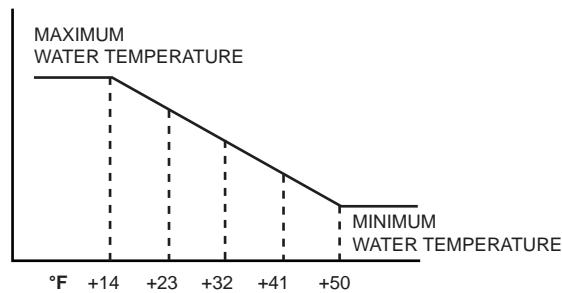

Fig. 5
- f) On the electronic aquastat (marked "WATER TEMPERATURE"), select the maximum water temperature required (1-10) by the type of installation. Please see Table 6 below for the temperature obtained according to the knob position. The minimum water temperature is reset automatically by the outdoor sensor. Please see the variation graph in Fig 5.